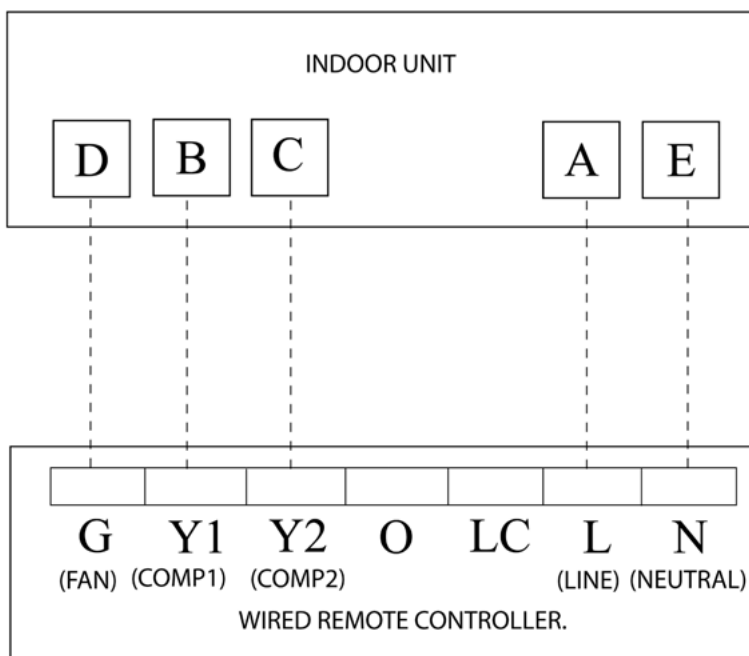

Fig. 6. Wiring connection
3. Use cable size 0.5-1 mm² connect the wires from indoor unit to the remote controller. See wiring diagram of indoor unit for location of remote controller terminals and refer to Fig. 6. for details.